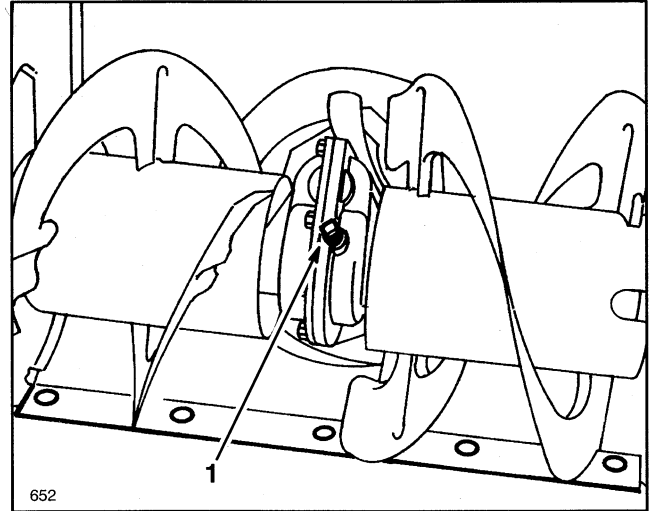

Figure 23
3. Remove pipe plug from gear box (Fig. 23).